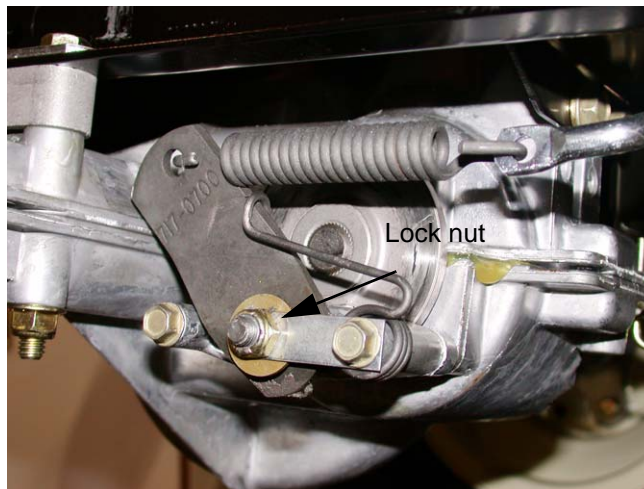

Figure 19.8
- 19.8. CVT-driven transaxles use a self locking nut on the brake adjustment. See Figure 19.8.